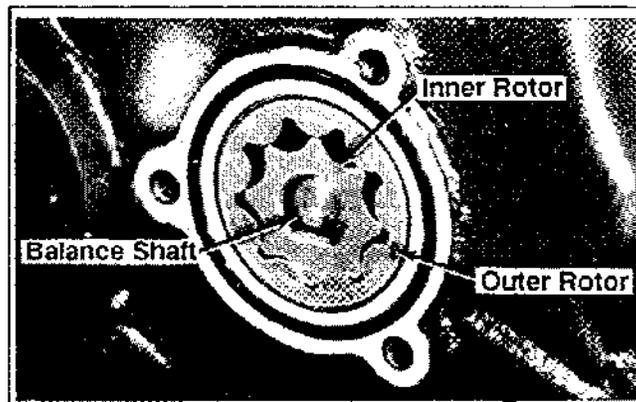

Figure 11-18. Installing Oil Pump Gears And O-ring.
1. Lubricate the oil pump cavity and oil pump rotors with engine oil. Install the outer and inner oil pump rotors. See Figure 11-18.